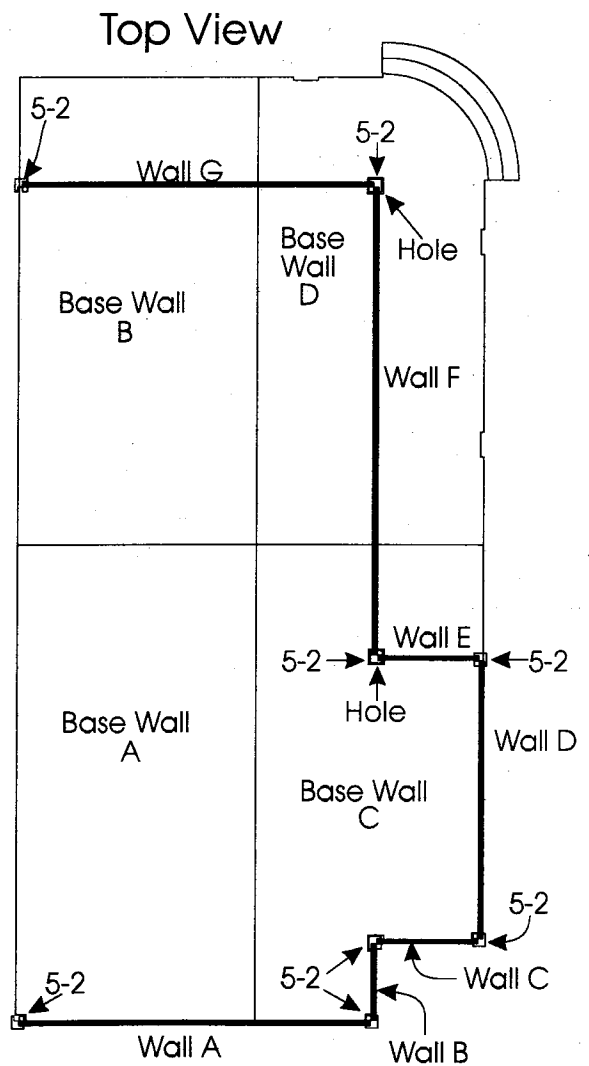

Figure 20
1. Cut large corner posts to 25" long (part 5-2). Insert into holes in Base Floor assembly as in Figure 20.
3. Insert walls into appropriate grooves as shown in Figure 20. Let dry.